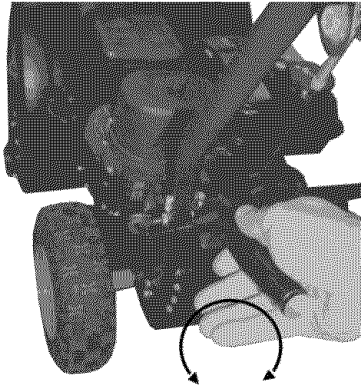

Figure 11- Adjusting Chute Outlet Direction
2. Adjust the chute outlet to the desired direction. Turn the chute rotation handle clockwise or counter-clockwise until the desired position is reached (see figure 11).